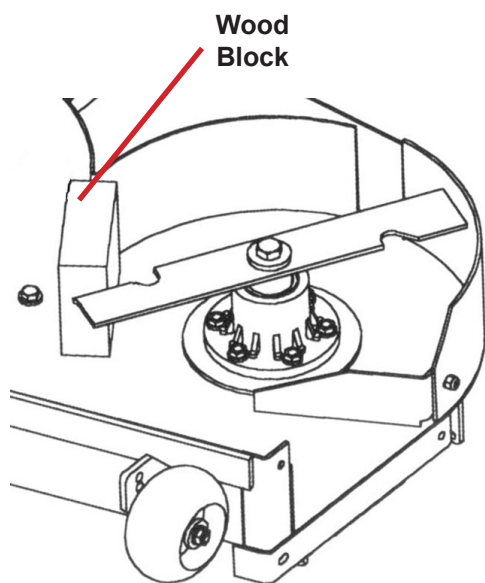

Figure 8
6. Check mower blades by lifting deck and secure in raised position with jack stands or equivalent support. Inspect blades and sharpen or replace as required. Re-install the blades by placing a block of wood between the front or rear baffles and the blade (*see Figure 8*), then torque the blade bolts to 115-120ft-lbs. Be sure the spring disk washer cone is installed toward the bolt head.